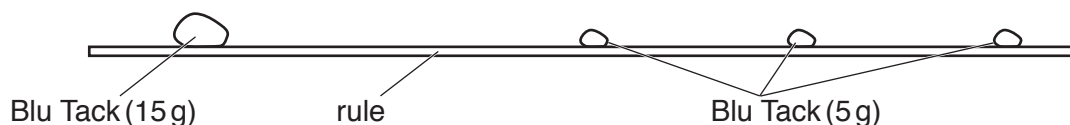

Fig. 2.1
1. The track should be made from two 1.0m rules with mm divisions. Three pieces of Blu Tack each of approximate mass 5g and one piece of approximate mass 15g should be placed along the length of one surface of one of the rules as shown in Fig. 2.1.